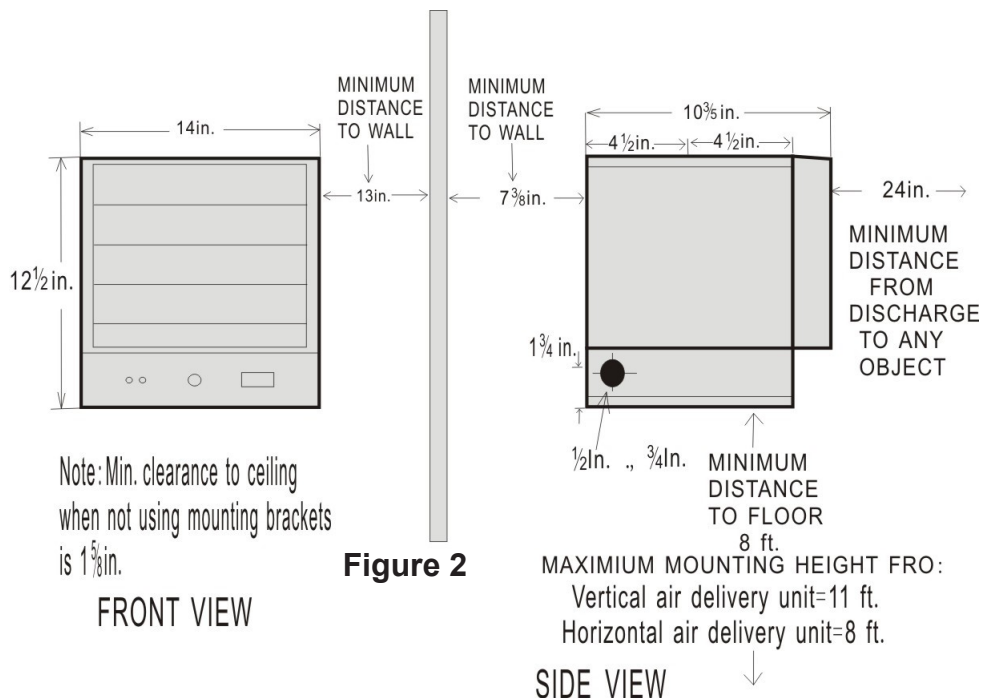

Figure 2
9. This heater must be mounted at least 8 feet off the floor. For specific clearances, see figure 2.
Install heater away from traffic areas, maintaining clearances stated in figure 2 (below). The air flow direction should not be restricted (ie. by columns or machinery). The air flow should wipe exposed walls rather than blowing directly on them. When more than one heater is used in an area, heaters should be be installed so that the air discharge of each heater supports the air flow of the others, to provide best warm air circulation as shown in figure 3.